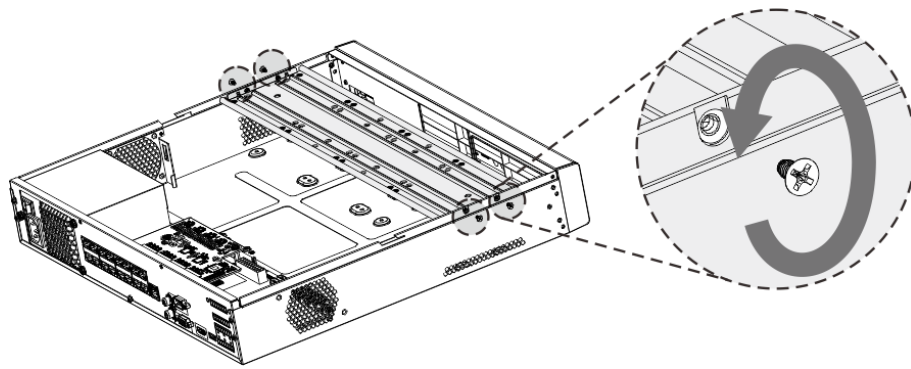

Figure 3-3
- 1.5U device has one HDD bracket. For the way to remove the bracket, see Figure 3-3